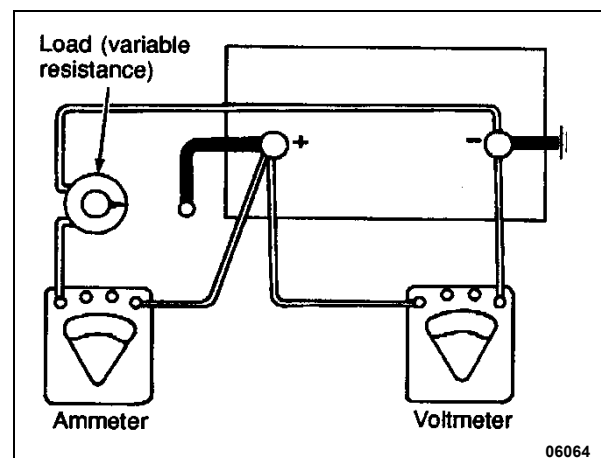

FIGURE 55: LOAD TEST
2. Connect a voltmeter, ammeter, and a variable load resistance as illustrated in Figure 55.